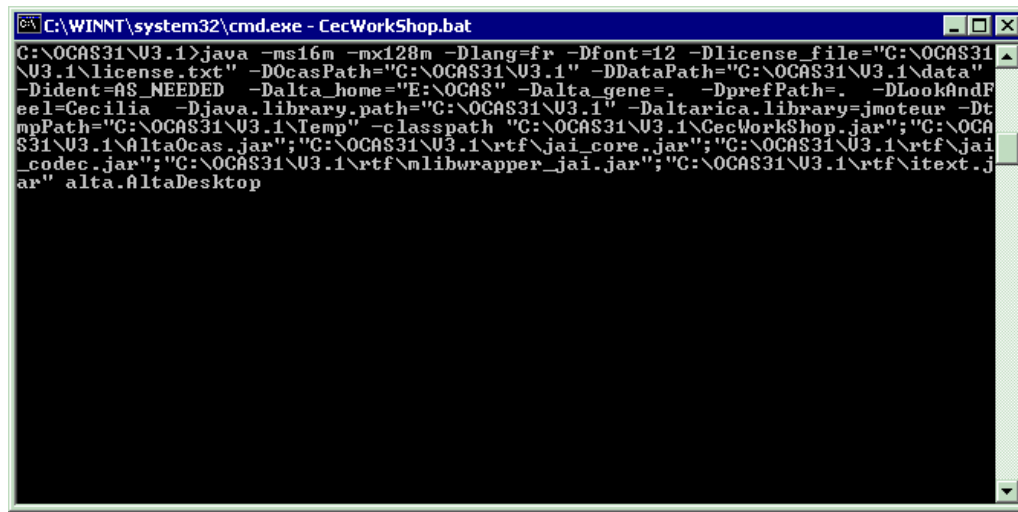

Figure 1 : Command window
- An initialization MS DOS (Microsoft Disk Operating System) DAS window (Figure 1).